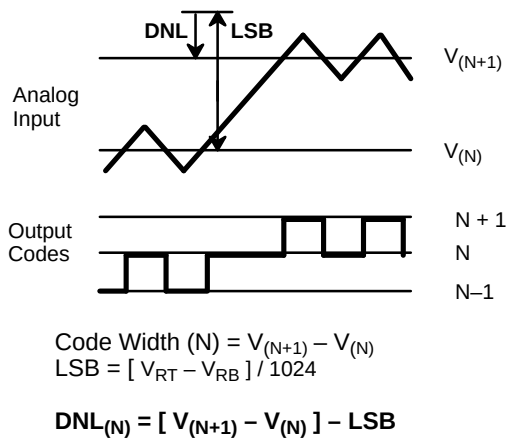
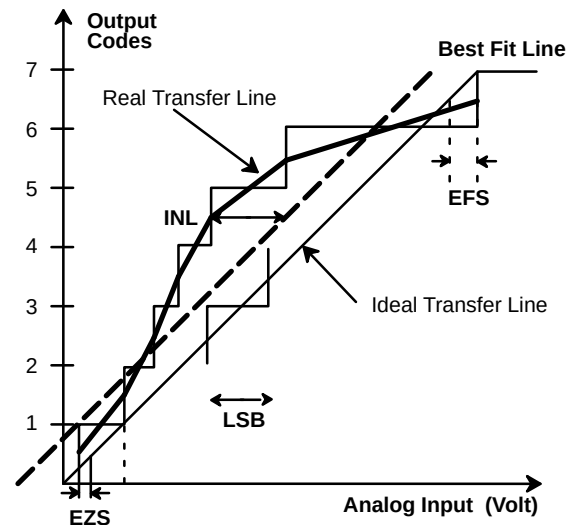

Figure 3. DNL Measurement
Figure 4. INL Error Calculation
- Tester measures code transitions by dithering the voltage of the analog input (V_{IN}). The difference between the measured and the ideal code width (V_{REF}/1024) is the DNL error (Figure 3). The INL error is the maximum distance (in LSBs) from the best fit line to any transition voltage (Figure 4). Accuracy is a function of the sampling rate (FS).